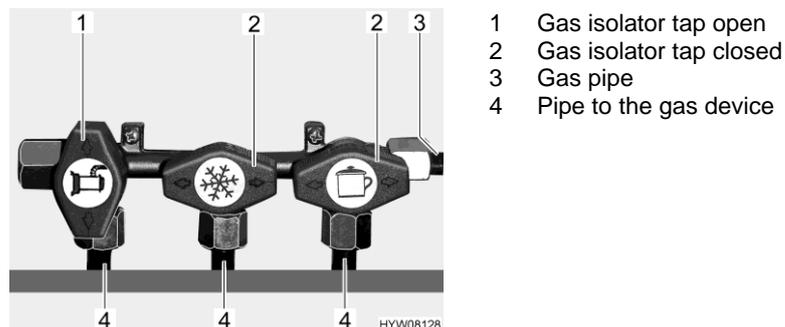

Fig. 68 Gas isolator taps position (example)
- Position the gas isolator tap of the corresponding gas device parallel (Fig. 68,1) to the pipe (Fig. 68,4) leading to the gas device.
- Position the gas isolator tap of the corresponding gas device transverse (Fig. 68,2) to the pipe (Fig. 68,4) leading to the gas device.